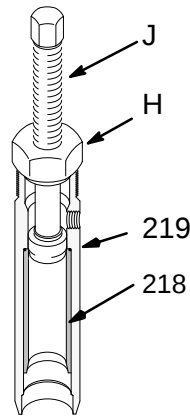

Fig. 28 0028
- Remove the sleeve (218) whenever your service the pump. Use special tool, Part No. 224–786 only. Screw the nut (H) into the cylinder (219). Screw down the rod (J) to push the sleeve out. See Fig. 28.